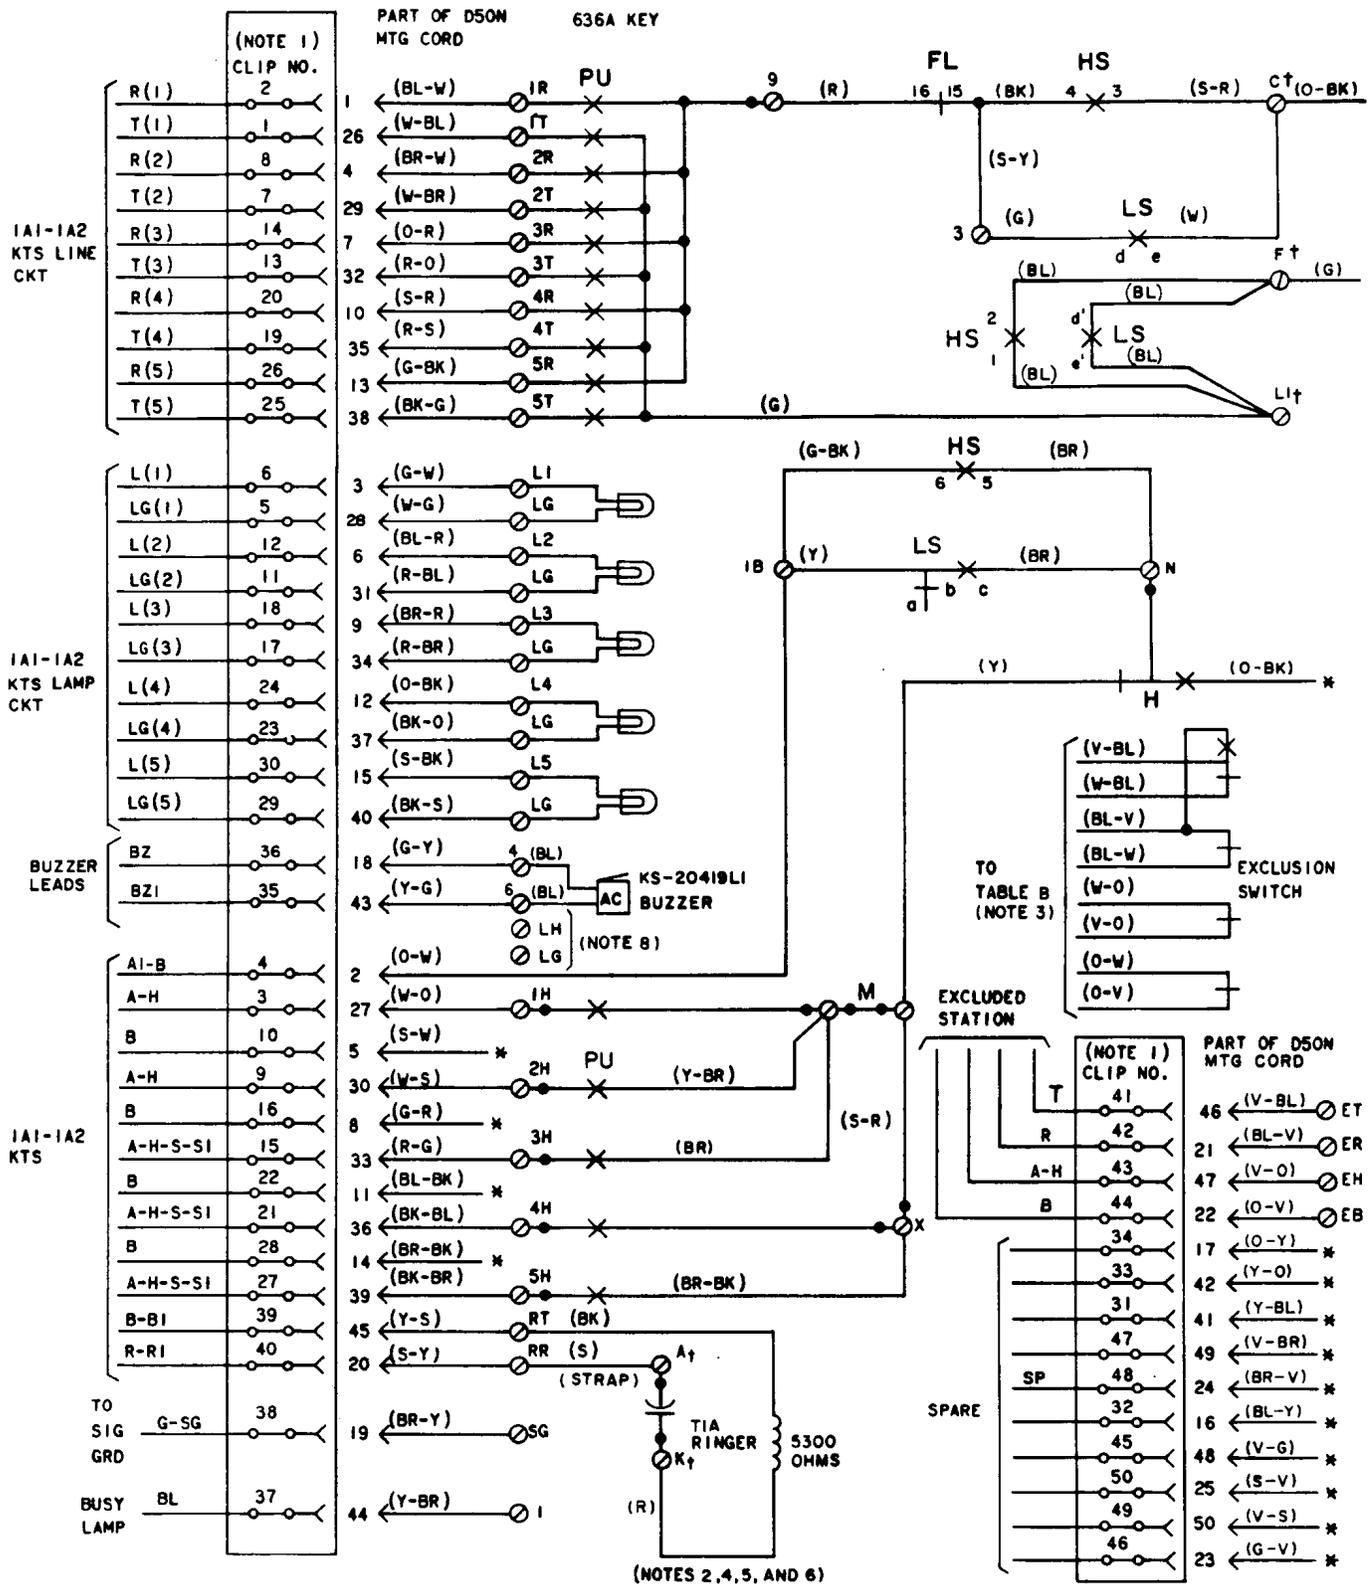

Fig. 6—2563HBMS Telephone Set, Connections (Sheet 1 of 2)
3.07 The 2563HBM (MD) modular telephone set (Fig. 5) is similar to the 2563HB (MD) set (Fig. 4) except the G15A handset with its associated H4DU cord and 616D jack is used in place of the hard-wired G3A handset. The 2563HBMS telephone set (Fig. 6) is similar to the 2563HBM (MD) set except for a new line switch and headset jack which breaks both the tip and ring sides of the line. Previous line switch and headset jack assemblies only broke the ring side of the line.